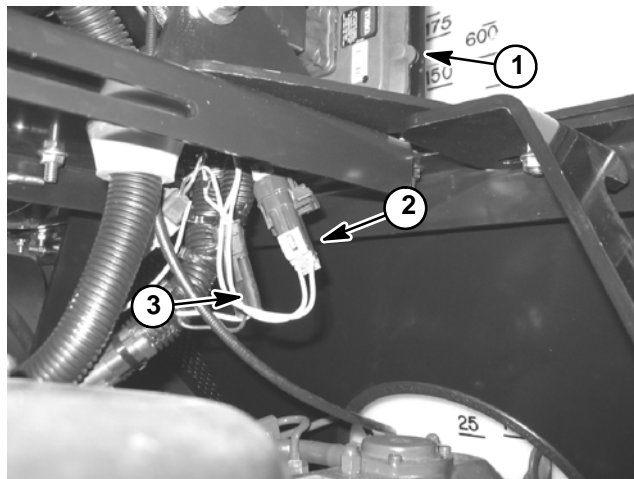

Figure 13
- The loopback connector is not connected to the machine wire harness (Fig. 13). The loopback connector is located under the console.
3. Locate diagnostic tether cap that connects the two (2) diagnostic shunt wires located under the console and operator seat (Fig. 13).
4. Remove diagnostic tether cap from diagnostic shunt wires and connect the two (2) shunt wires together.